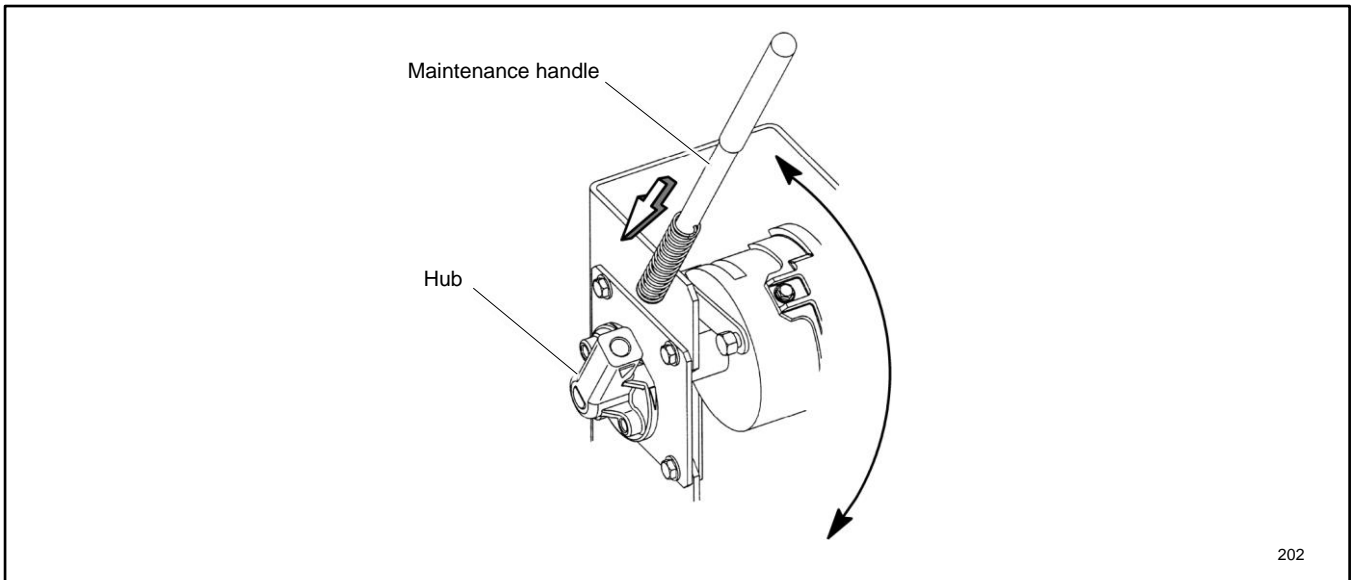

Figure 9 Manual Operation, 800-1200 Amp Model KUS
- 800-1200 amp switches:** See Figure 9. Insert the maintenance handle into the hole in the molded hub on the left side of the operator.